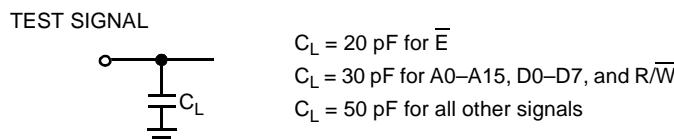

Figure 2. Signal Loading for Timing Specifications Unless Otherwise Specified
19. The three-state condition is when the device is not actively driving data. Refer to *Figure 2* and *Figure 5* for detailed measurement information.